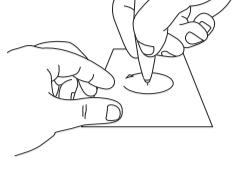

Fig. 1.1
Step 1. Clean the probe tip (**Fig. 1.1**) as stated in the User's Manual page 18-19 cleaning the probe tip.